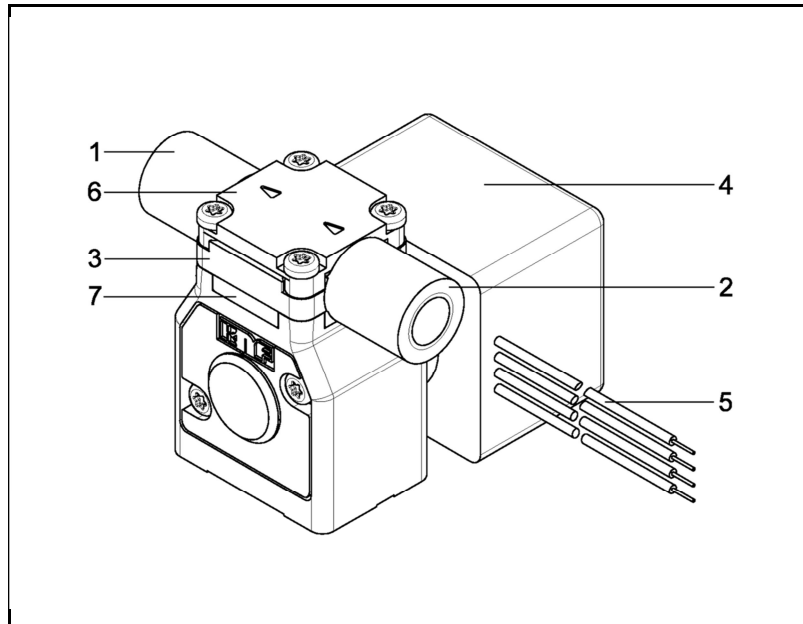

Fig. 1: Micro diaphragm liquid pump NF1.5
* The pump head (Fig. 1) comprises an intermediate plate and a connecting plate.